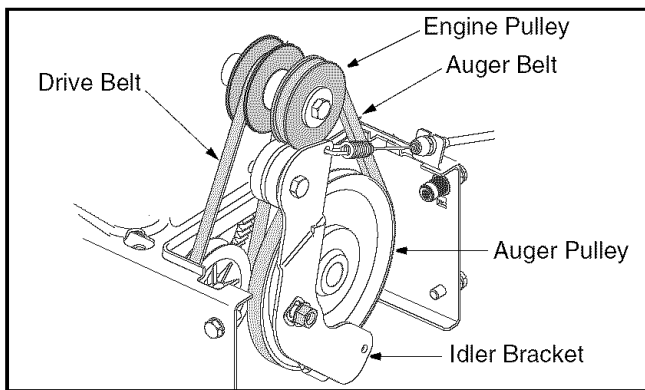

Figure 12
1. Slip the front auger belt off the engine pulley pushing it down between the idler bracket and the engine pulley. See Figure 12.
5. Place the new drive belt into the groove on the engine pulley. See Figure 12 .